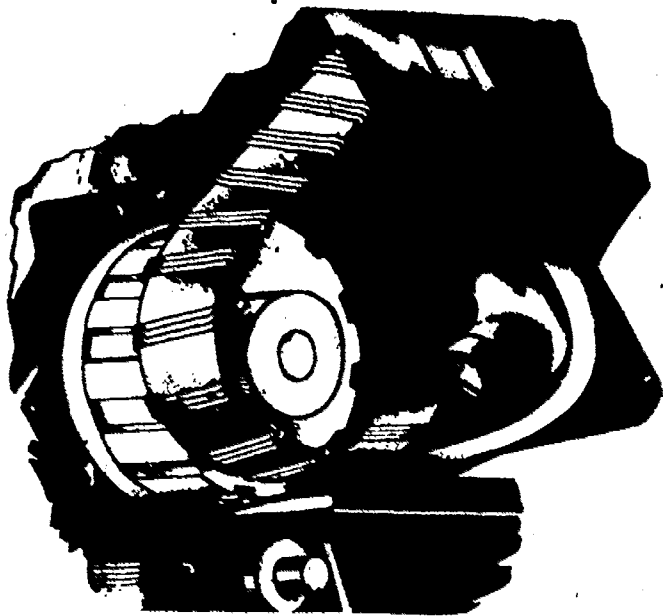

Figure 7. Removal of Arm Shaft Connection Belt from Lower Pulley
4. If arrows are not in line, remove connection belt from lower pulley, figure 7.